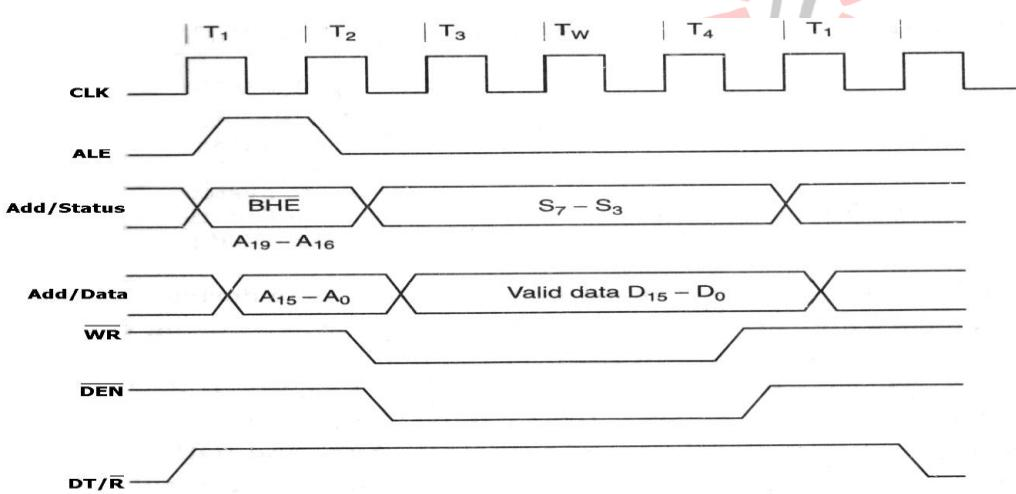

Figure 1.6: Timing Diagram for Write Machine Cycle of 8086.
3. Figure 1.6 shows the timing diagram for Write Machine Cycle of 8086.